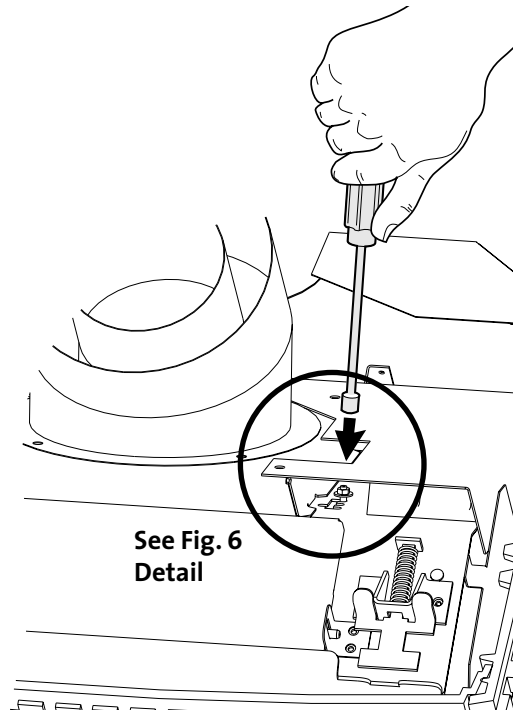

Figure 7. Use a nut driver to change the Exhaust Restrictor setting.
The Exhaust Restrictor is an adjustable shutter located at the top right side of the firebox. It is adjusted by moving a pivot pin into one of four positions. It is set in the FULLY OPEN (D) position at the factory. See Fig. 7. The four positions correlate to the termination zones (A,B,C,D) diagramed in figures 9-12. Consult these Vent Window diagrams on pages 10-11 to determine the setting you should use.
The circled letter designations in the vent diagram correspond to the Exhaust Restrictor Setting on the stove. First, determine which vent termination zone is appropriate for your installation and fuel type, then adjust the stove restrictor plate to the corresponding position as shown in Figure 7, page 9.